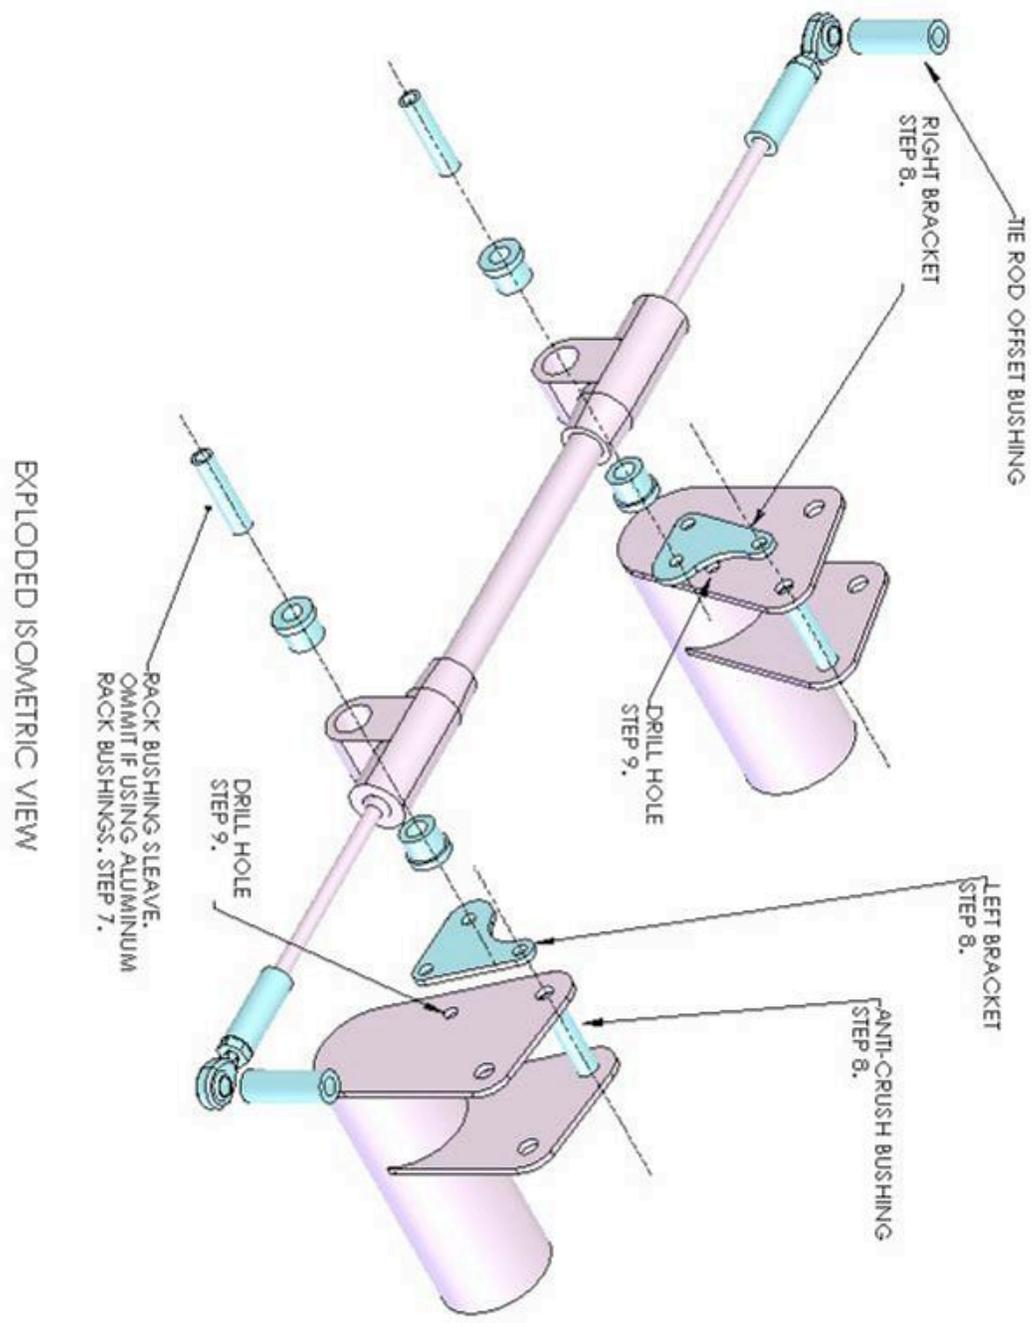

Figure 2.
mounted. Once the rack is positioned, tighten the mounting bolts tight. See figure 2.
- 4) The remaining two holes in the new brackets now need to be marked and drilled. This can be done with either a  $\frac{1}{2}$ " locating punch or by placing the  $\frac{1}{2}$ " drill in the hole and spinning it enough with the drill motor to make a mark. Once this is done, remove the rack and use the  $\frac{1}{8}$ " drill to drill a pilot hole. Then use the  $\frac{1}{2}$ " drill to finish the hole. Re-mount the rack using all of the supplied hardware. Torque all fasteners to 40 lb. ft. See figure 2.